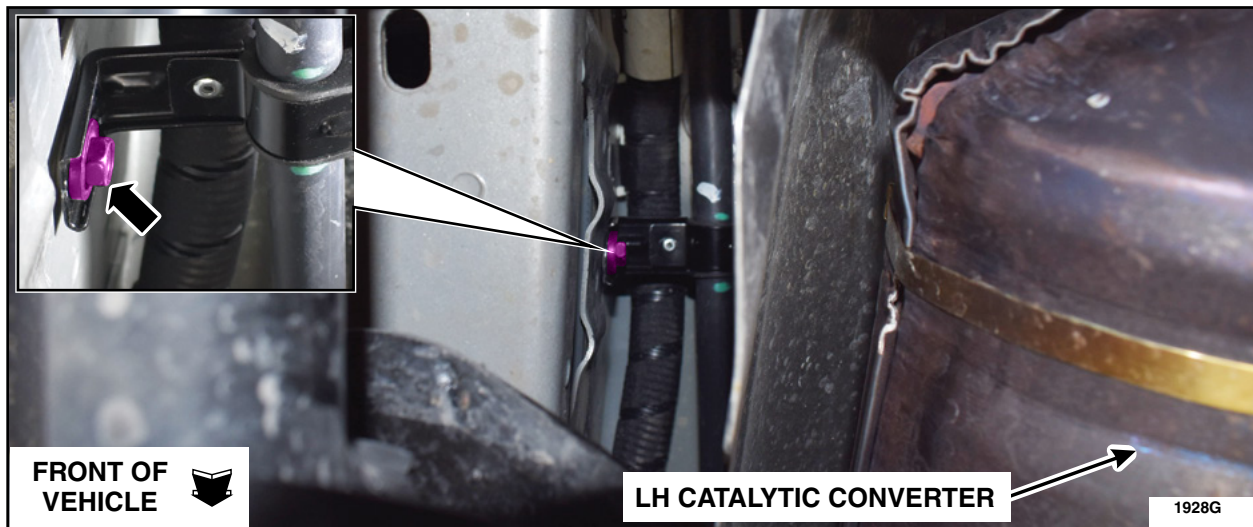

FIGURE 27
28. Install the rear heater coolant line retainer located above the LH catalytic converter. See Figure 27.